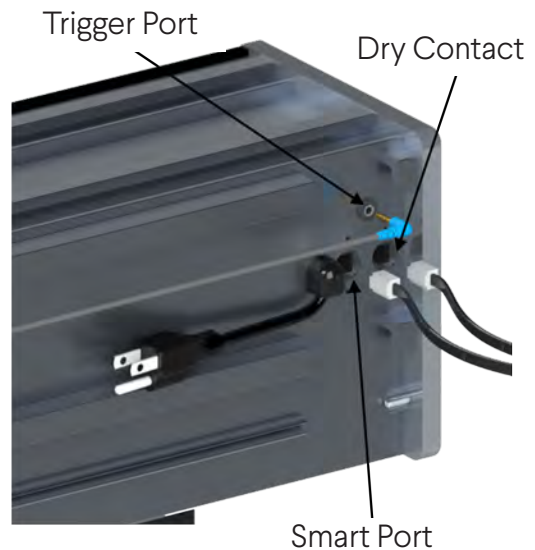

Figure 18. Rear, audience left of case with 10ft power wire, two RJ45 inputs and a 3.5mm trigger port
1. Connect the IR eye with RJ45 end to the back of Luxus on the smart port with RJ45 as shown (see Figure 18).
2. Connect the 90 degree, male, 3.5 mm (see Figure 20) trigger cable to the Luxus unit's female 3.5 mm aux port (see Figure 18).
2. Connect the IR wall switch cable with RJ25 end to the back of Luxus on the smart port with RJ45 as shown (see Figure 18).
1. Connect the RJ45/RJ25 cable to the back of the Luxus case on the dry contact RJ45 port (see Figure 18).
1. Connect the RJ25 cable to the back of the Luxus case on the smart port with RJ45 (see Figure 18).